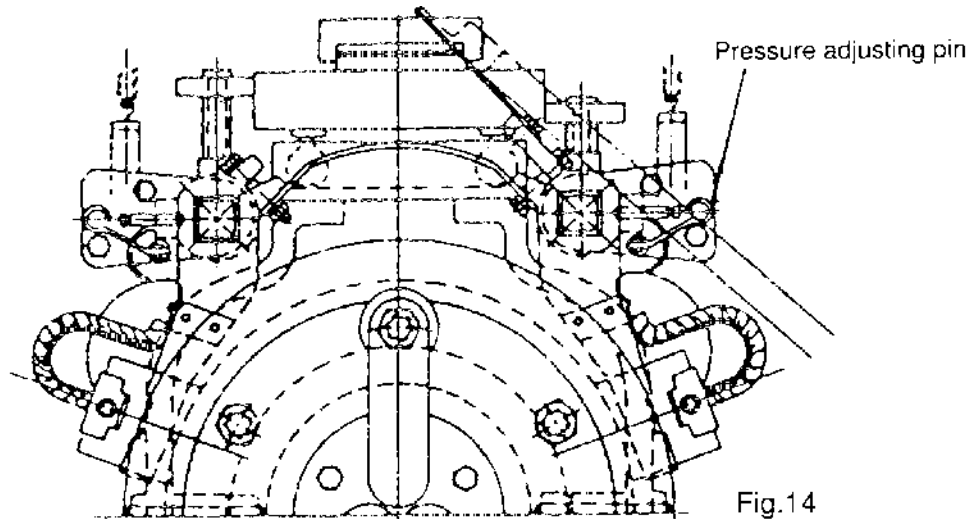

Fig.14
- The brush pressure may be reduced after use, so it is necessary to re-adjust. For adjustment, please turn adjusting screw, pressure adjusting pin or pressure adjusting plate as shown in Fig. 14 to obtain the correct tension (= 3.27 x brush cross sectional area in inches2) +/- 0.2 lbs" (=0.23 x brush cross sectional area in cm2) ±10% kg).